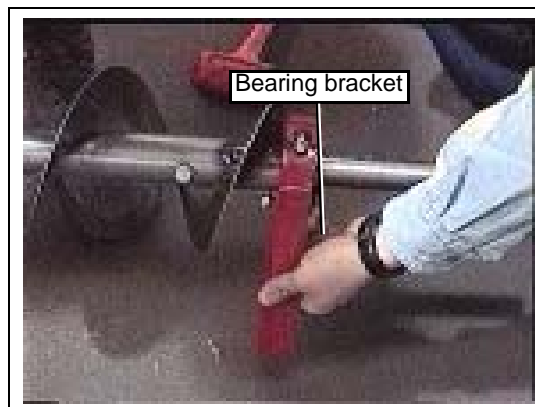

Figure 3AB
1. Place the hanger bearing bracket onto the connecting stub. (See Figure 3AB.)